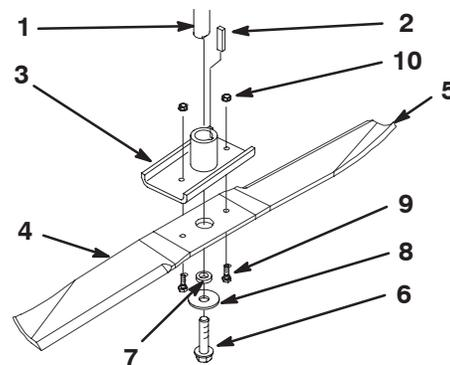

Figure 46
Hold the blade end using a rag or thickly-padded glove. Remove the retainer bolt with its washer and spacer, and the shear bolts and locknuts from the blade retainer (Fig. 46).
1. Install the key in the retainer and install blade retainer to spindle (Fig. 46).
2. Install the blade, spacer, washer, and retainer bolt to spindle (Fig. 46).
4. Position the blade onto the blade retainer and secure with shear bolts and locknuts (Fig. 46).